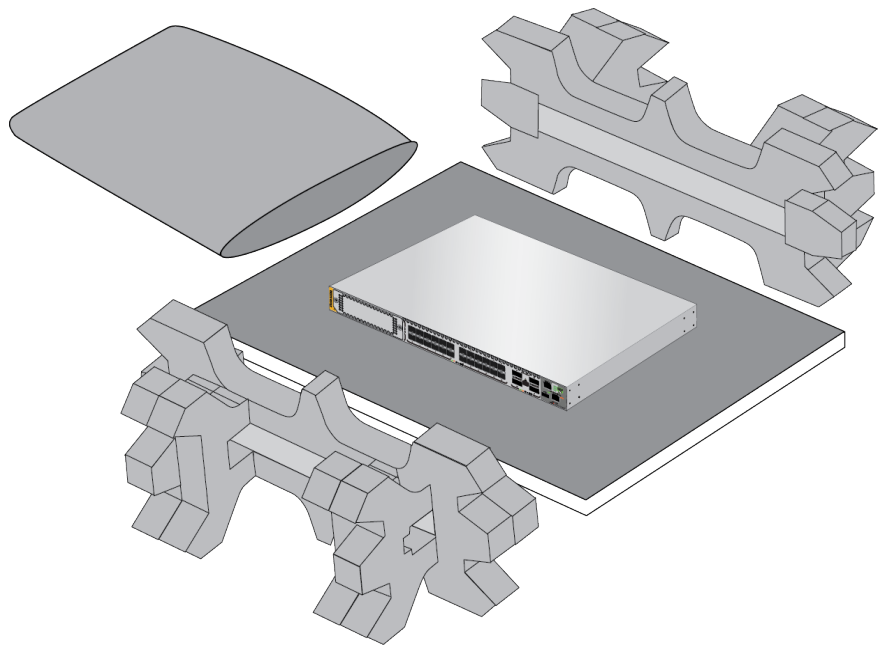

Figure 32. Removing the Switch from the Shipping End-caps and Protective Bag
4. Remove the switch from the shipping end-caps and protective bag. Refer to Figure 32.